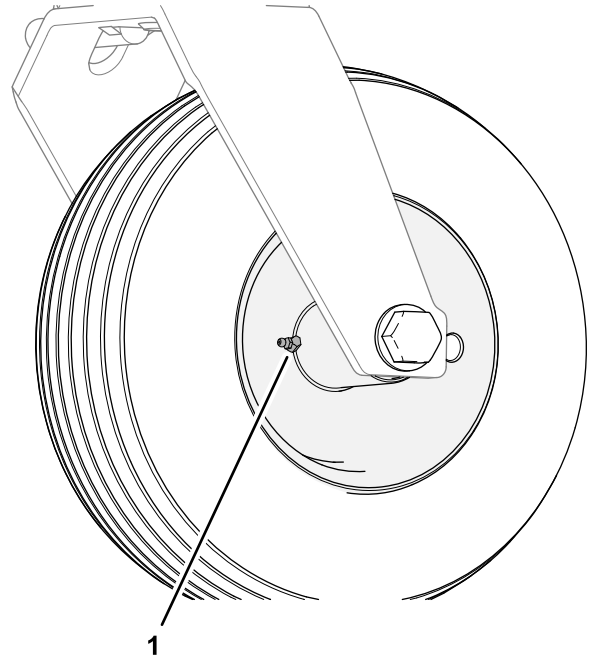

Figure 65
2. Connect a grease gun to the fitting in the hub of the caster wheel (Figure 65).